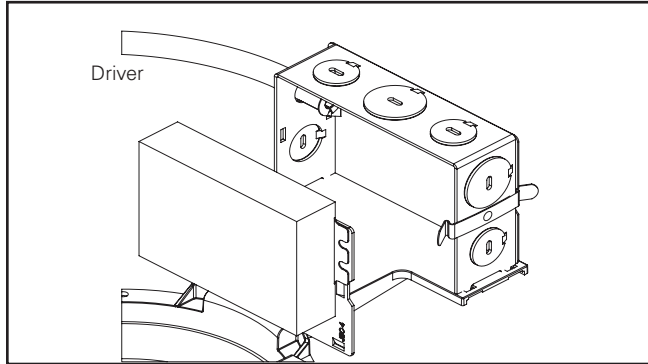

Figure 43.
4. Connect supply lead wires to junction box lead wires (line, neutral and ground) in the fixture using the provided connectors. (Figure 43). Be careful not to leave any bare conductors outside of the connectors.
- Remove the driver and junction box cover assembly (Figure 43).